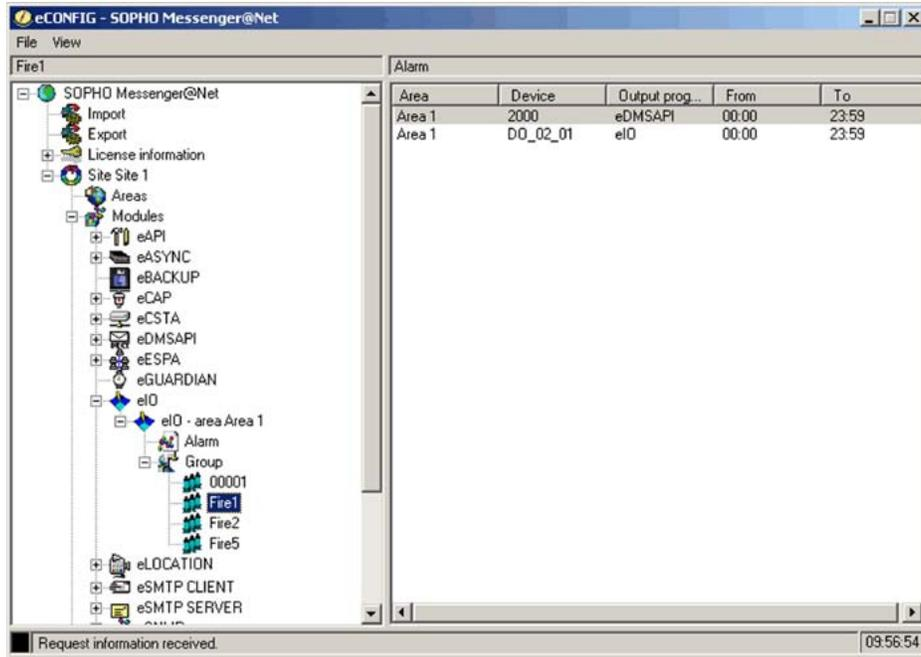

Figure 26: Groups in an input module
Under the eIO Module in the eCONFIG, two menus appear: Alarm and Group. Under the Group menu, the groups that are specified in the eKERNEL for that input module are displayed, as shown in Figure 26: Groups in an input module on page 100.
A Group name must match a Group name that comes from the input module. In this example, the Group name (Fire1) must match the Group name that is assigned to the input contact (01) in Figure 26: Groups in an input module on page 100. Under the Group name Fire1, two Members are listed, which are actual output Devices (Device 2000 and Device DO_02_01).